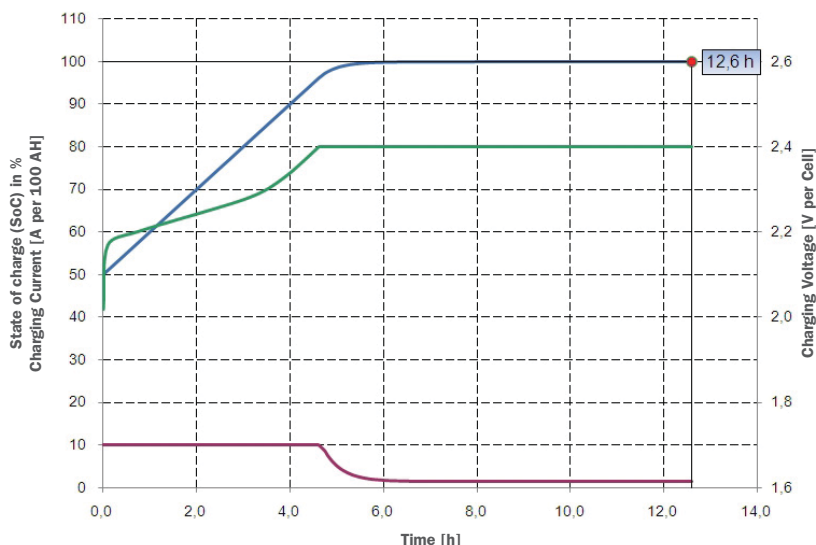
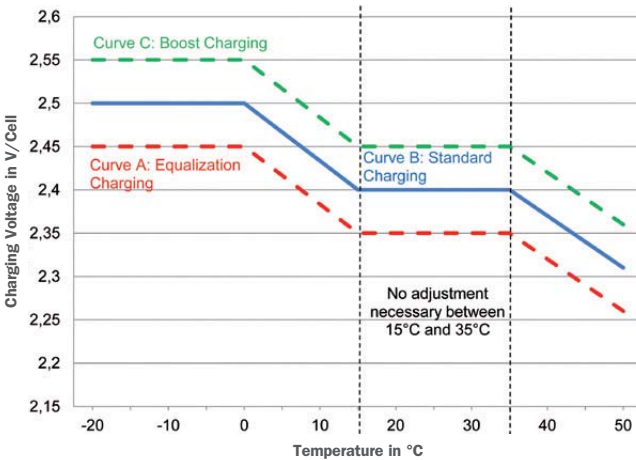

Fig. 7-1: Charging characteristic of OPzB solar power cell at 50% DoD
Fig. 7-2: Charging voltage as a function of temperature in solar cycling operation
The chart below (refer to fig 7-1) demonstrates the OPzV solar.power recharge characteristic (IU-characteristic) after a discharge of 50% DoD (Depth of Discharge).
Charging procedure shall be compliant to IU- or IU1 – characteristic (refer to example fig. 7-1.). Recommended charging voltages for cyclical applications2 are depicted in fig. 7-2.
1. Boost charge (charger equipped with two-stage controller): Charge with boost charge voltage (refer to curve C in fig. 7-2) for max. 2 hours per day. The charging voltage has to be reduced after max. 2 h in boost voltage stage (refer to curve A in fig. 7-2). Charging current should range at 5 A to 20A/100 Ah battery capacity ( $C_{10}$ ). After the charging current has reached 1 A/100 Ah battery capacity ( $C_{10}$ ) the charging voltage needs to be adjusted to normal float charge voltage for standby batteries as given in the HOPPECKE operating instructions (2.25 V/cell at temperature between 15 °C and 35 °C).
Charge with standard charge voltage (refer to curve B in fig. 7-2). Charging current should range at 5A to 20A/100 Ah battery capacity ( $C_{10}$ ). After the charging current has reached 1A/100Ah battery capacity ( $C_{10}$ ) the charging voltage needs to be adjusted to normal float charge voltage for standby batteries as given in the HOPPECKE operating instructions (2.25 V/cell at temperature between 15 °C and 35 °C).
- Max. 2.4 V/Cell up to 48 hours (refer to curve A in fig. 7-2).